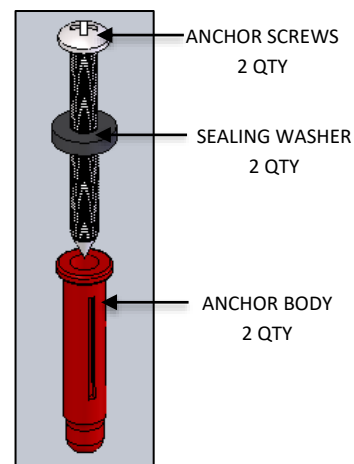

FIG.5 - MOUNTING HARDWARE
- i. TWO (2) ANCHOR BODY (shown in FIG. 5)
- ii. TWO (2) ANCHOR SCREWS (shown in FIG. 5)
- iii. TWO (2) SEALING WASHERS (shown in FIG. 5)